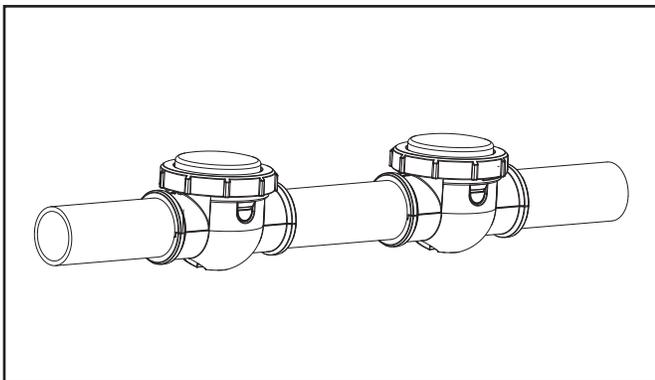

Figure 27. Installing the Winterizing Cap
6. Attach the winterizing cap (see Figure 27)